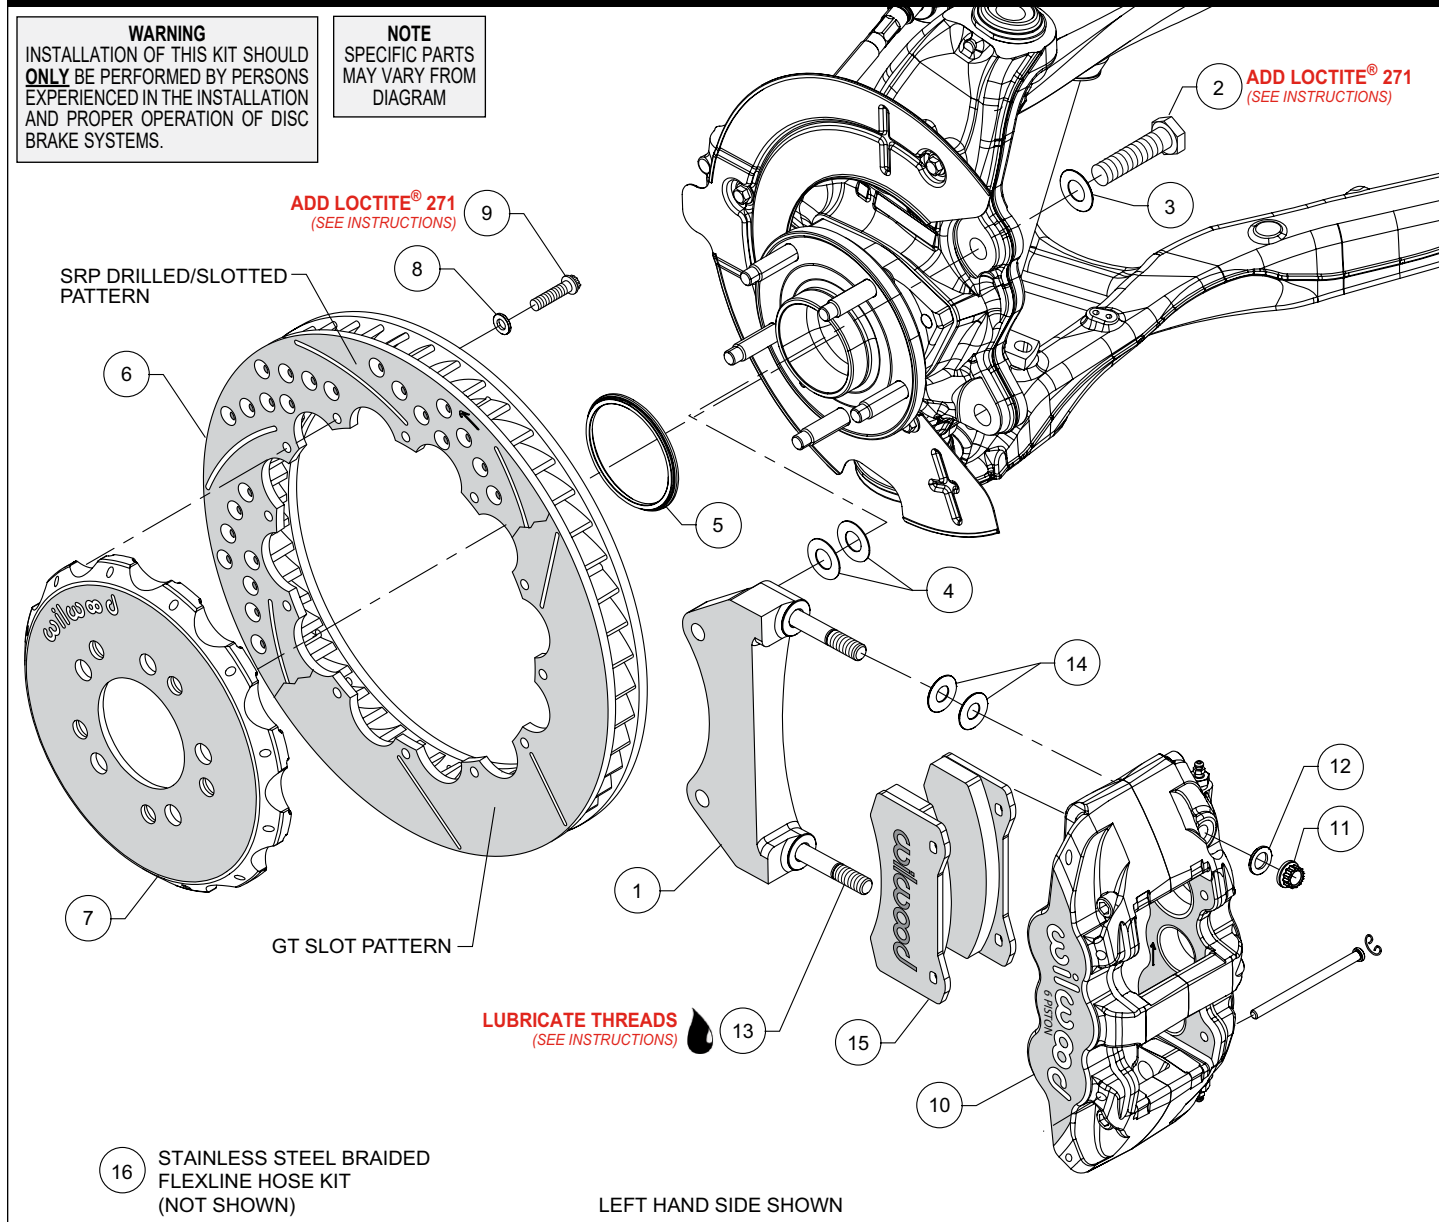
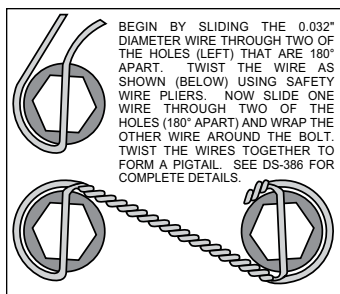

Figure 1. Typical Installation Configuration
Figure 3.
NOTE: Numbers in parenthesis refer to the parts list and Figure 1 on the preceding pages.
- The caliper mount bracket (1) should initially be installed with clean, dry threads on the mounting bolts. Orient the bracket as shown in Figure 1, and Photo 1 and install using bolts (2) and washers (3). Initially place two .029" thick shims (4) on each bolt between the bracket and upright, Figure 1. Temporarily tighten the mounting bolts. **NOTE:** *The bracket must fit squarely against the mount bosses on the upright.* Inspect for interference from casting irregularities, machining ridges, burrs, etc. Later, after the caliper alignment has been checked, the mount bolts will be secured using red *Loctite*® 271.
- Orient the rotor (6) and the hat (7) as shown in Figure 1 and Photo 2. Attach rotor to hat using bolts (9) and washers (8). Using an alternating sequence, apply red *Loctite*® 271 to the threads, and torque to 155 **in-lbs**. For an added measure of security, the bolts may be safety wired using standard 0.032 inch diameter stainless steel safety wire as shown in Figure 3. Please refer to Wilwood's data sheet DS-386 (available at www.wilwood.com/Pdf/DataSheets/ds386.pdf) for complete safety wire installation instructions.
- Slide the rotor registration adapter (5) onto the axle register on the axle hub with the smaller O.D. facing outward, Photo 3. Slide the hat/rotor assembly onto the axle hub. **NOTE:** *The hat must fit flush against the axle hub flange or excessive rotor run out may result.* Install three lug nuts (finger tight) to keep the hat/rotor assembly in place while continuing with the installation, Photo 4.
- NOTE:** *This kit contains distinct right and left hand calipers that must be mounted in a specific direction, as described below.* Lubricate the caliper mounting studs (13) with lightweight oil. Initially place two .030" thick shims (14) on each stud as shown
in Figure 1 and Photo 5. Mount the caliper (10) onto the bracket (1) using lock nuts (11) and washers (12), Figure 1. Ensure that the caliper is mounted so that the largest pistons are at the rotor exit end of the caliper, in relation to the direction of rotor rotation. Temporarily tighten the lock nuts and view the rotor through the top opening of the caliper. The rotor should be centered in the caliper, Photo 6. If not, adjust by adding or subtracting shims (4) between the bracket and the upright. Always use the same amount of shims on each of the two mounting bolts. Once the caliper alignment is correct, remove the bracket mounting bolts (2) one at a time, apply red *Loctite*® 271 to the threads, and torque to 77 ft-lb.
- Remove the two pad retaining pins from the caliper (10) by carefully popping out the pin retaining clips and sliding out the pins. Insert the brake pads (15) into the caliper from the bottom, Figure 1 and Photo 7. With the friction material facing the rotor, secure the brake pads in place with the pad retaining pins and clips, Photo 8. Reinstall the caliper onto the caliper mounting bracket and temporarily tighten the lock nuts. Check that the top of the brake pad is flush with the outside diameter of the rotor, Photo 9. If not, adjust by adding or subtracting shims (14) between the caliper and the bracket. After the caliper pad height is set, torque the caliper lock nuts (11) to 47 ft-lb.
- **NOTE:** OEM rubber brake hoses generally cannot be adapted to Wilwood calipers. The caliper inlet fitting is a 1/8-27 NPT (use PTFE tape on pipe threads for proper sealing to caliper). Install Wilwood's stainless steel braided flexline hose kit (16), P/N 220-9100 included with this kit as shown in Photo 10. **Carefully route hoses to prevent contact with moving suspension, brake or wheel components.** **NOTE:** Wilwood hose kits are designed for use in many different vehicle applications and it is the installer's responsibility to properly route and ensure adequate clearance and retention for brake hose components.